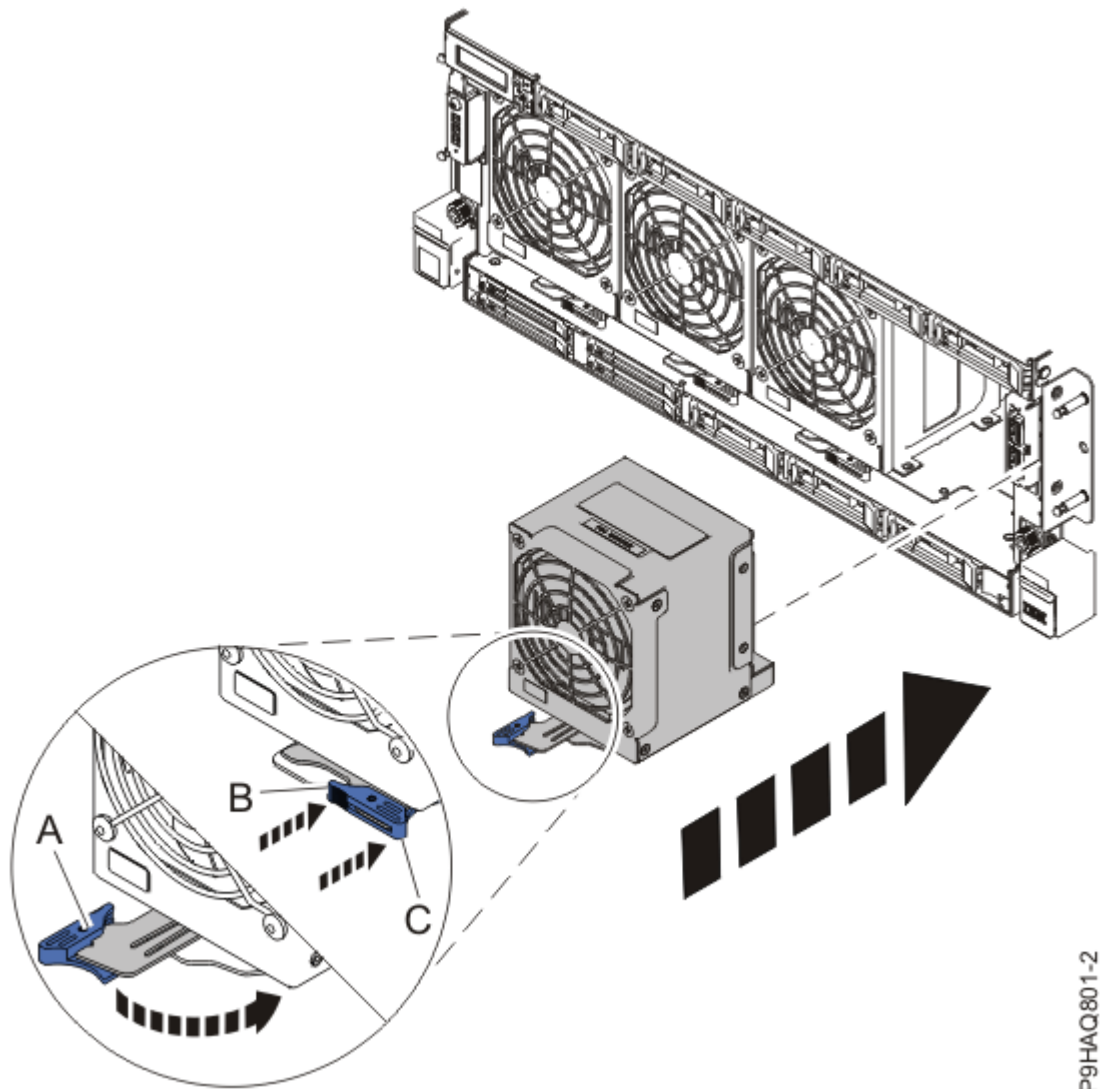

Figure 21: Replacing a front fan
1. Move to the front of the rack. Ensure that the fan handle (**A**) is rotated open in the direction shown in Figure 21 on page 22.
3. Rotate the fan handle (**A**) in the direction shown and then press the fan handle until the latch locks in place. See Figure 21 on page 22.